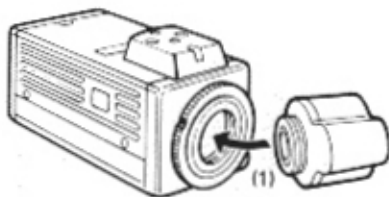

Fig. 1
- (1) Mount the lens onto the lens mount of the camera by turning it clockwise. (Fig. 1)